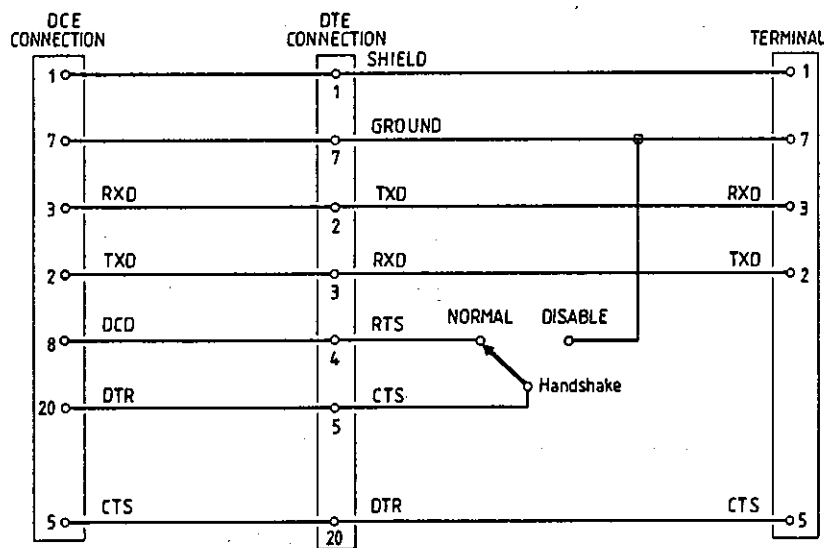

Fig. 5.2 RS232C Interconnections Diagram
Connect the RS232C terminal (item 7) to the DTE connector. To perform a full test including handshake, the connecting lead should be arranged to include a Handshake Disable switch as shown in Fig. 5.2. Set this switch to 'NORMAL' (pins 4 and 5 of DTE connector linked). Make no connection to the DCE connector at this stage.
Disconnect lead from DTE socket, connect to DCE socket as detailed in Fig. 5.2. Repeat the foregoing sections completely including the handshake disable test.